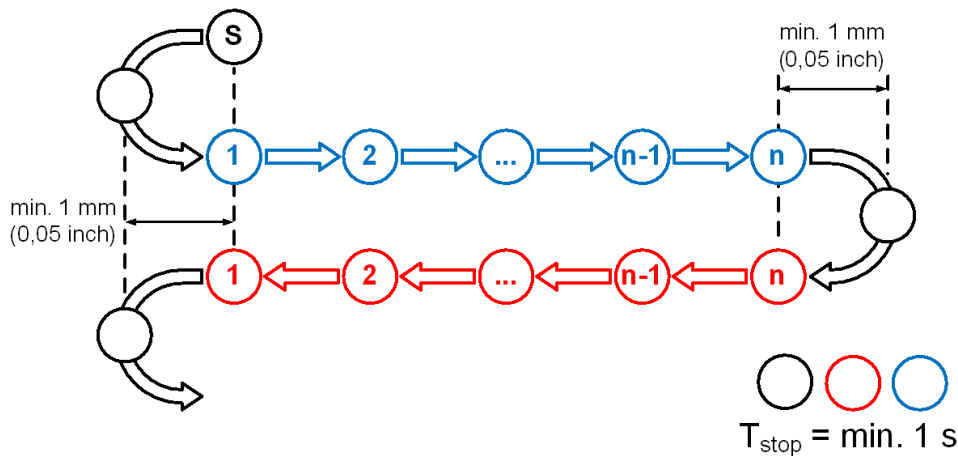

FIG.5.21. MACHINE MOVEMENT IN THE **LINEAR** MODE (S - STARTING POINT)
There are four available methods for checking machine's positioning: Linear, Pendulum, Pilgrim Standard and Pilgrim Effective (buttons in *Measurement method* panel). The directions of the expected movement of the machine are shown in the pictograms and in figures 5.21, 5.22, 5.23 and 5.24. Usually the *Linear* method is used.
- **Skip backlash compensation** – if checked then the software does not expect the machine to make the backlash compensation movement (from point S to point 1 in the figures 5.21 – 5.24). When manual point capture option is chosen then there is no backlash compensation at the first measurement point!
Skip backlash compensation – if checked then the software does not expect the machine to make the backlash compensation movement (from point S to point 1 in the figures 5.21 – 5.24).